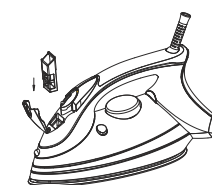

Fig.5
4. Replace the Anti-calc box back into the filling hole as show in figure 5.